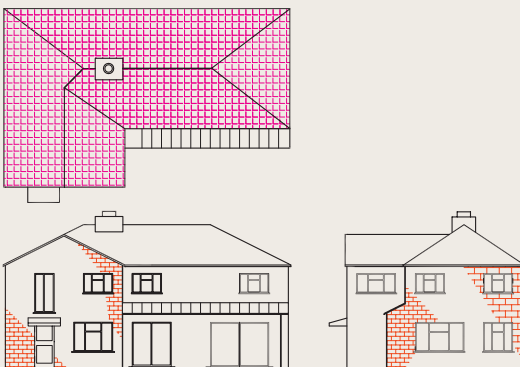

Fig. 8.25 Exercise 6
- Working to dimensions of your own choice, construct the three-view projection of a two-storey house as shown in Fig. 8.25.